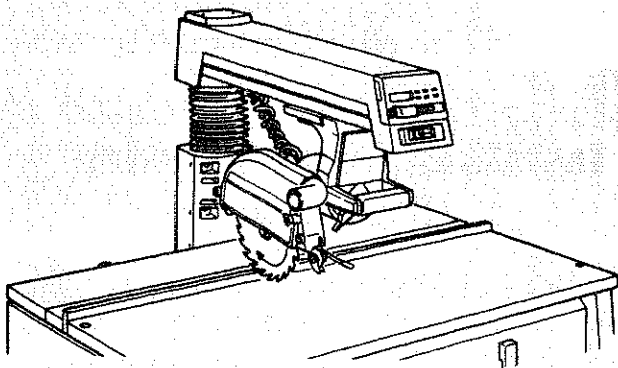

Fig. 125
2. Place the *guard* over the *blade*. You will feel the *guard* fall into place when the ridge on the inside of the *guard* slides into the slot on the *motor*. (Figure 125)
3. Make sure that the lower edge of the *guard* is parallel to the table. (Figure 125 - above)